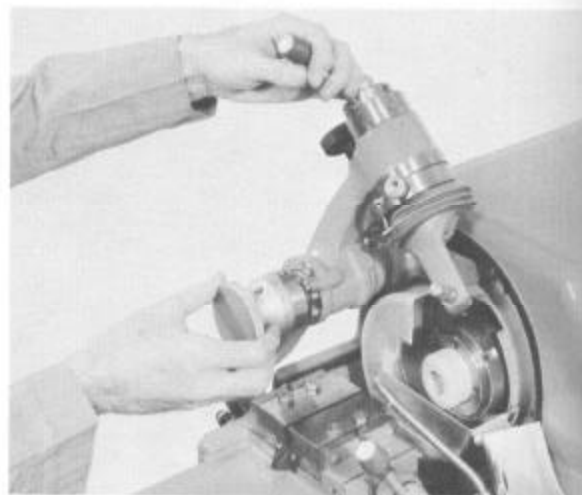

Figure 8a
4. Swivel the truing unit clockwise as far as it will go. (See Figure 8a.) Turn the locking knob (Figure 8b) clockwise until it becomes snug.